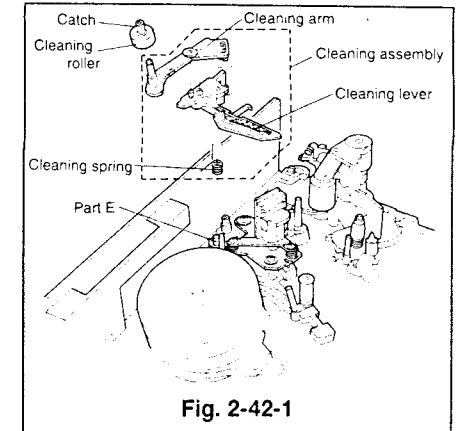
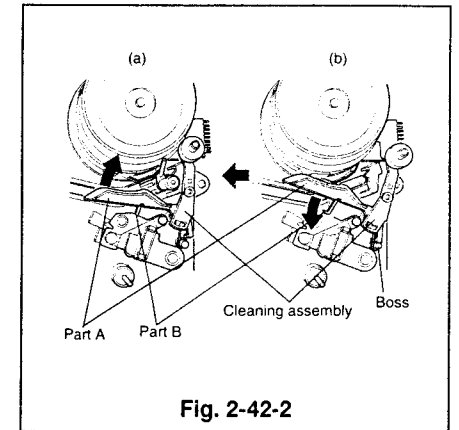
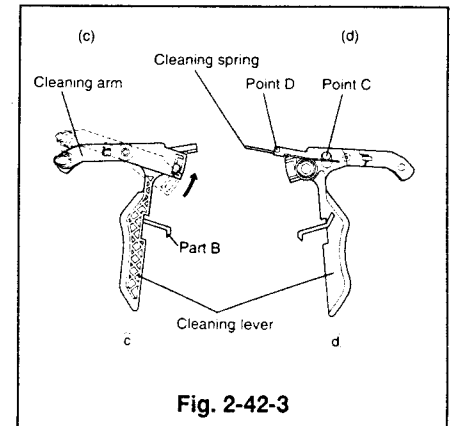

Fig. 2-42-1
Fig. 2-42-2
Fig. 2-42-3
- ① Remove the PCB-HA/AUDIO. (Refer to Para. 2-8 for the removal method.)
- ② Unfasten the catch to remove the cleaning roller. (Refer to Fig. 2-42-1)
- ③ Turn part A of the cleaning assembly clockwise as shown in Fig. 2-42-2 to release the catch part B Fig. 2-42-2 and Fig. 2-42-3(c). Release the catch part E and remove the cleaning assembly from the shaft.
- ④ Remove the cleaning spring to detach the cleaning arm and the cleaning lever.
- ① Attach the cleaning arm to the cleaning lever and turn it clockwise as shown in Fig. 2-42-3(c). Make sure that the cleaning arm and the cleaning lever turn without binding.
- ② Hook one end of the cleaning spring with the boss (point C), projecting from the cleaning arm, and the other end to point D of the cleaning lever as shown in Fig. 2-42-3(d).
- ③ Place the cleaning assembly in the position shown in Fig. 2-42-1, and in the direction shown in Fig. 2-42-2(b). Turn the part A, shown in Fig. 2-42-2, counterclockwise to set the part B under the A/C plate of the A/C head assembly. Make sure that the spring hooks with the boss of the main plate shown in Fig. 2-42-2. Shift the part A in the direction shown by the arrow and release to make sure that it returns.
- ④ Insert the cleaning roller into the position shown in Fig. 2-42-1 to install it.